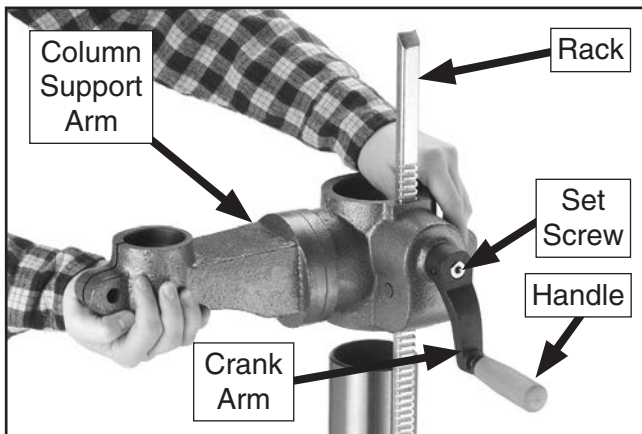
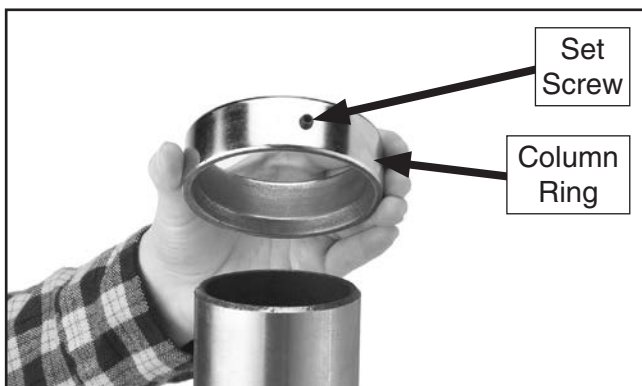

Figure 15. Rack orientation (G7946 shown).
Figure 16. Inside bevel in the correct position.
4. Slide the crank arm over the pinion gear shaft and align the set screw in the crank arm with the flat portion of the shaft (see **Figure 15**).
6. Remove column ring (**Figure 16**) by loosening set screw and remove rack (**Figure 15**). The end of the rack that has teeth extending closest to the edge must be positioned down.
7. Insert rack into table bracket pocket so gear teeth mesh with rack as shown in **Figure 15**.
9. Slide the column ring over the column with the beveled edge facing down (see **Figure 16**), fit the beveled edge of the column ring over the rack, and tighten the set screw.